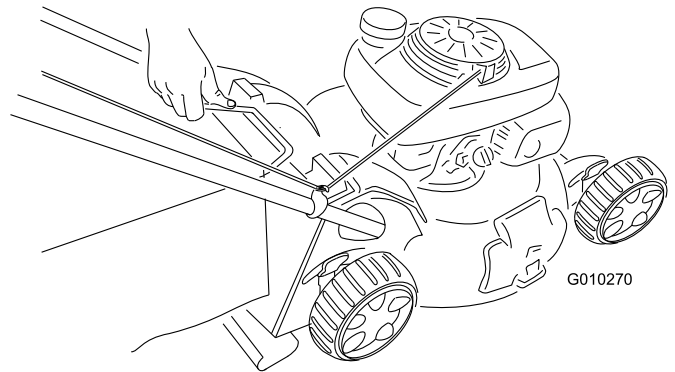

Figure 28
2. Lift the grass-bag handle out from the grooves at the top of the machine, and remove the bag from the machine (Figure 28).